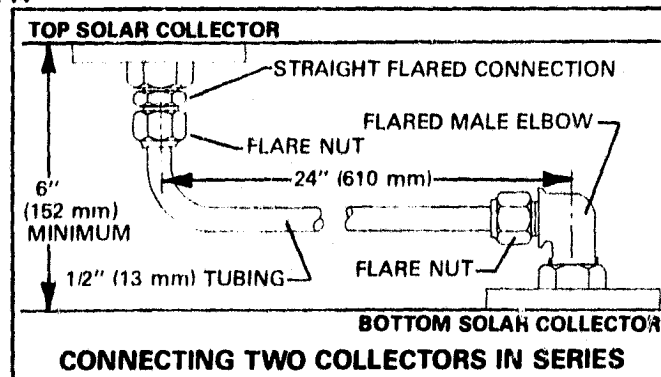

FIGURE 15
- a - Figure 15 illustrates two solar collectors piped in series. Install a flare male elbow at the bottom collector and a flare straight connection at the top collector.